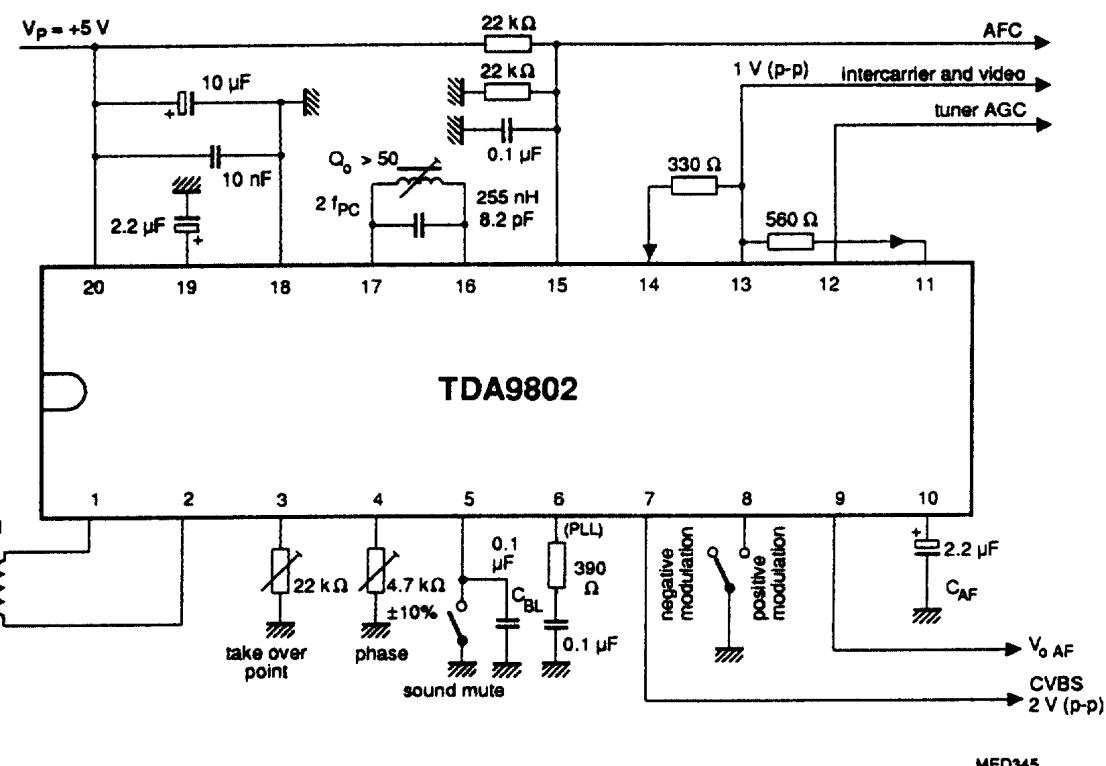

Fig.3 Test circuit.
7. Transformer at IF input (Fig.3). The C/N ratio at IF input for 'lock-in' is defined as the vision IF input signal (sync level, RMS value) in relation to a superimposed, 5 MHz band-limited white noise signal (RMS value); video modulation: white picture.